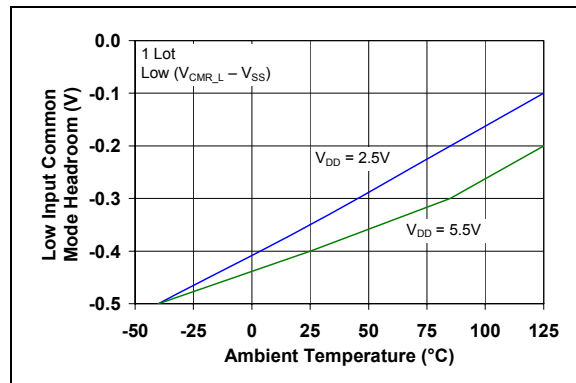
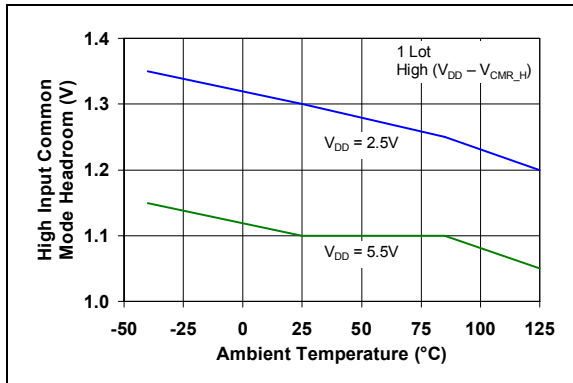

FIGURE 2-6: Low Input Common Mode Voltage Headroom vs. Ambient Temperature.
FIGURE 2-7: High Input Common Mode Voltage Headroom vs. Ambient Temperature.
- 2: See Figure 2-6 and Figure 2-7 for temperature effects.